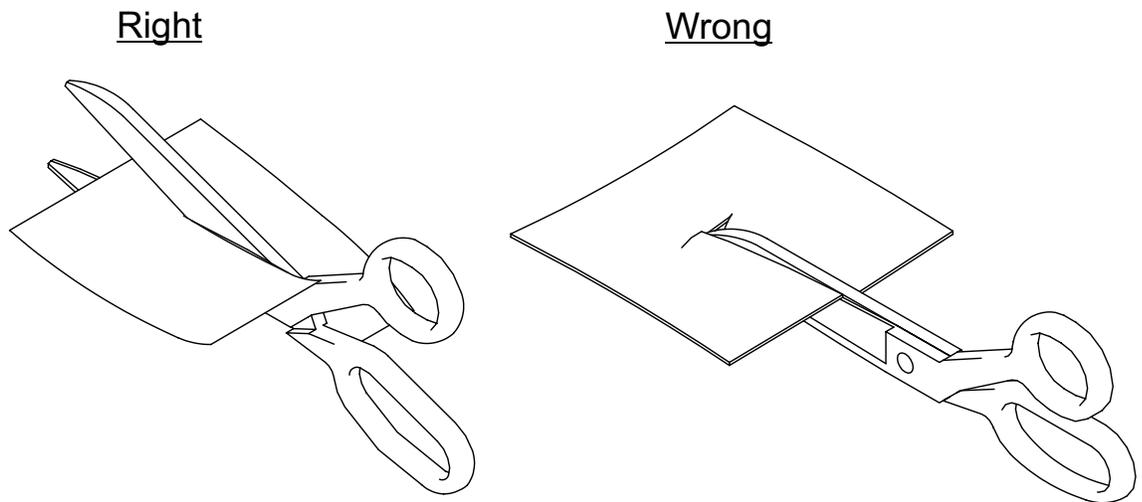

**Figure 6-2.**
- ❑ 2. Plunge cut all sharp corners of the canopy halves, canopy doublers and seam reinforcement strip with the tip of a hobby knife to separate the sharp corners from the plastic sheet as shown in Fig. 6-2.